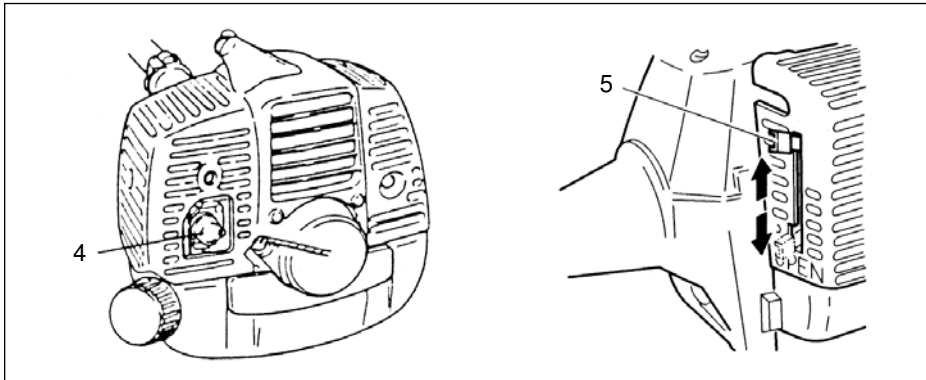

Fig.2-2C
- *Push priming bulb (4) several times so that fuel flows through the bulb or return pipe. (If so equipped)(Fig. 2-2C, 3)
2. With the safety trigger (2) pressed (if so equipped), pull throttle trigger and push throttle lock (3), then slowly release the throttle trigger first, then the safety trigger. This will lock the throttle in starting position.
3. Set choke lever to CLOSED position (5).
(Fig. 2-2C, 3)